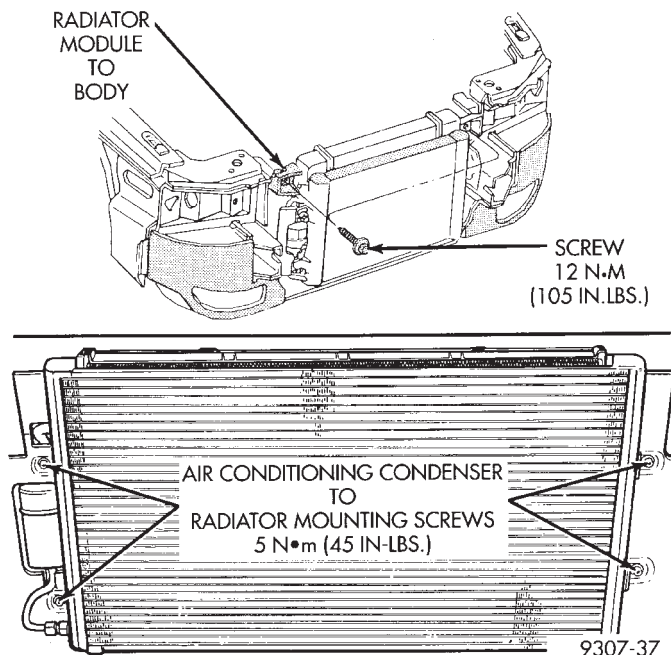

Fig. 37 Condenser Mounting Screw Location
(9) Disconnect automatic transaxle cooler line hoses from cooler. Temporarily plug cooler lines after removal.
(10) Disconnect fan wiring connector from RFI Module.
(11) Remove upper radiator mounting screws to body. Access to mounting screws can be obtained through hole in headlamp module bracket.
(12) Lift entire cooling module from vehicle.
(13) Remove air conditioning condenser attaching screws (Fig. 37) located at front of radiator to separate radiator from condenser.